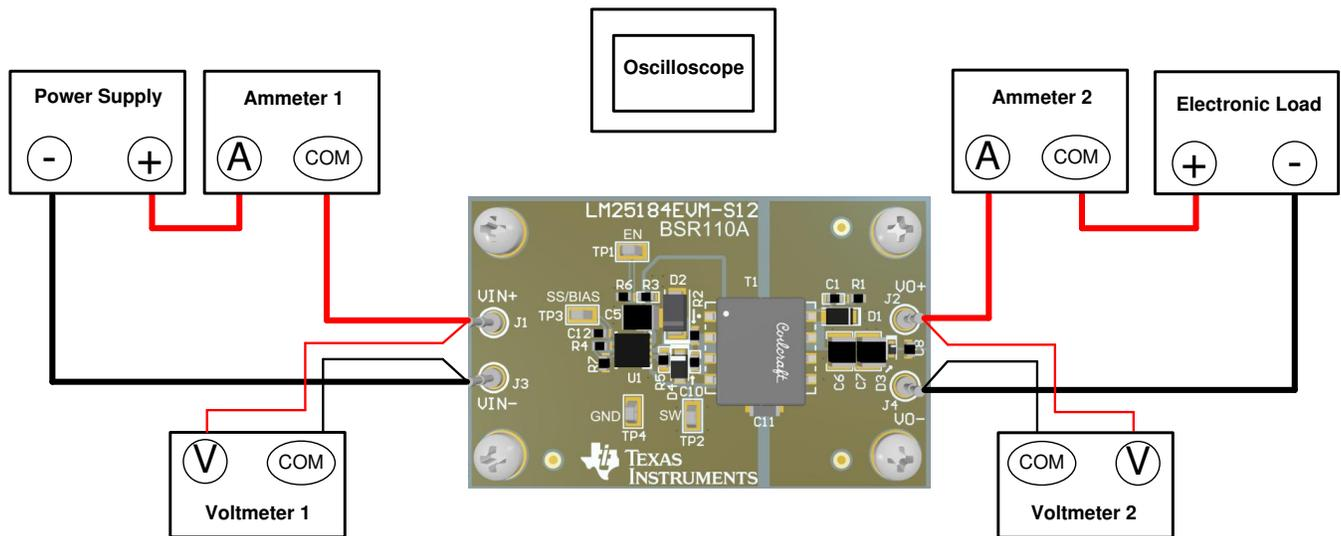

Figure 3. EVM Test Setup
Referencing the EVM connections described in Table 3, the recommended test setup to evaluate the LM25184EVM-S12 is shown in Figure 3. Working at an ESD-protected workstation, make sure that any wrist straps, bootstraps, or mats are connected and referencing the user to earth ground before power is applied to the EVM.
- Prior to connecting the DC input source, set the current limit of the input supply to 0.1 A maximum. Ensure the input source is initially set to 0 V and connected to the VIN+ and VIN– connection points as shown in Figure 3. An additional input bulk capacitor is recommended to provide damping if long input lines are used.